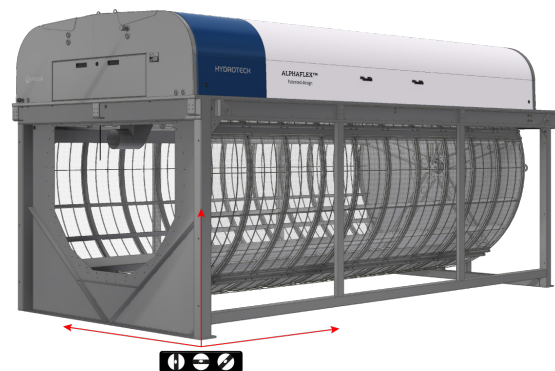

Figure 5.1 Filter installation
- ▶ The filter must be level in both directions (see Figure 5.1).